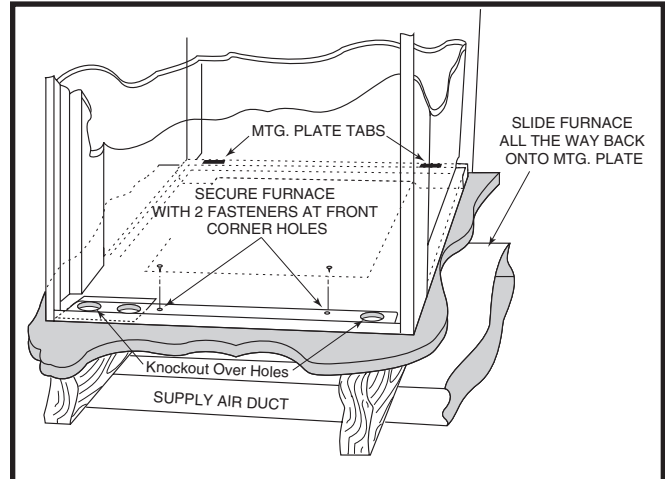
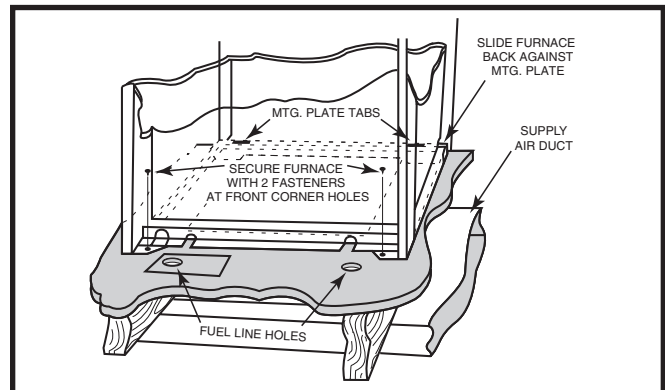

Figure 15. "A" & "B" Cabinet Furnaces
Figure 16. "A" Cabinet Furnace on Coil Cabinet
Sides and back of the furnace may be enclosed by wall framing such as in a closet or alcove. The dimensions of the room or alcove must be able to accommodate the overall size of the furnace shown in Figure 4 and the installation clearances outlined on page 6. The furnace shall be appropriately connected to the supply distribution system as shown in Figure 15 & Figure 16.
4. Secure front with one (1) fastener at each corner. See Figure 15 & Figure 16.